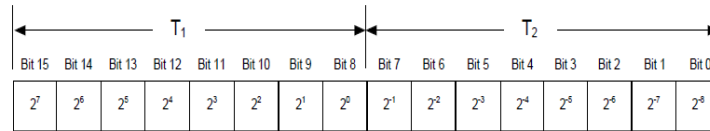

Figure 4 Convert temperature output to [°C]
3) Temperature output [°C] = $\frac{T_1 \cdot 2^8 + T_2}{2^8}$ The data bit format is shown in Figure 4.